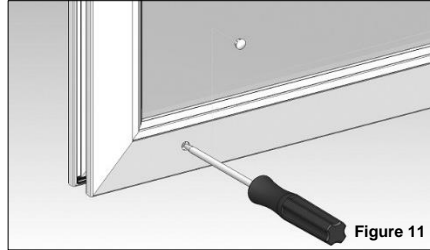

Figure 11
11. Adjust the rollers on the panel to the third position and check that it is square with the frame. Turn anti-clockwise to the lowest setting and then turn clockwise to the third position. Make any necessary adjustments and install the finishing "plugs" on the sill and on the head (Figure 11).